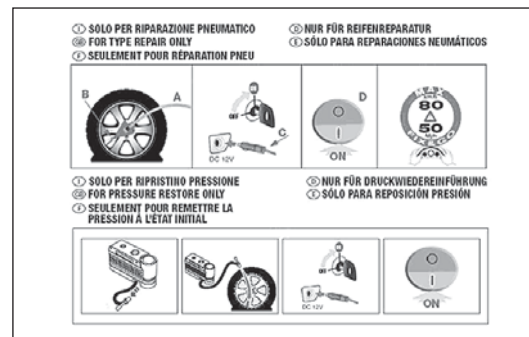

fig. 157
- ☐ instruction brochure (see fig. 157), to be used for prompt and proper use of the quick repair kit and then presented to the personnel charged with handling the treated tyre;